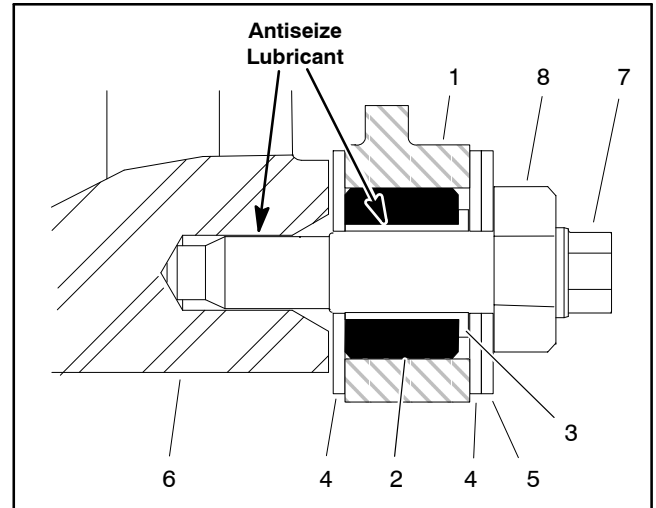

Figure 24
1. If rubber bushing was removed from either cutting unit side plate, install a new bushing. The bushing should be installed flush with the inside of the side plate (Fig. 24).
5. Position bedbar into cutting unit. Make sure that the top of each bedbar arm is between washer (item 4) and adjuster screw flange.
6. Position a plastic washer between bedbar and each cutting unit side plate (Fig. 24).